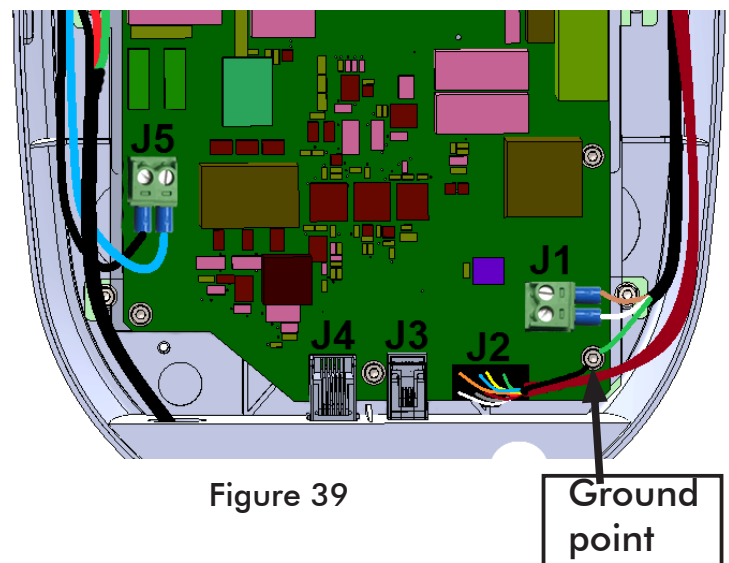

Figure 39
- Using a 2.5mm allen key connect the GND wires(Ring terminals) of both the Communication & INV power cables in the Base Unit to the Power Board fixing screw as shown in Figure 39.
- Connect the INV power cable to J1 connector (Non-polarised) using a Jewel screwdriver (holding the connector) as shown in Figure 39.
- Connect the communication cable connector to J2 connector of the power board as shown in the Figure 39.
- Route the cables as shown in Figure 39 along the right inner side the Bas e Unit. Use new Cable ties to fix the cables on the existing cable mounts & cut the extra length of cable ties using a cable tie cutter.